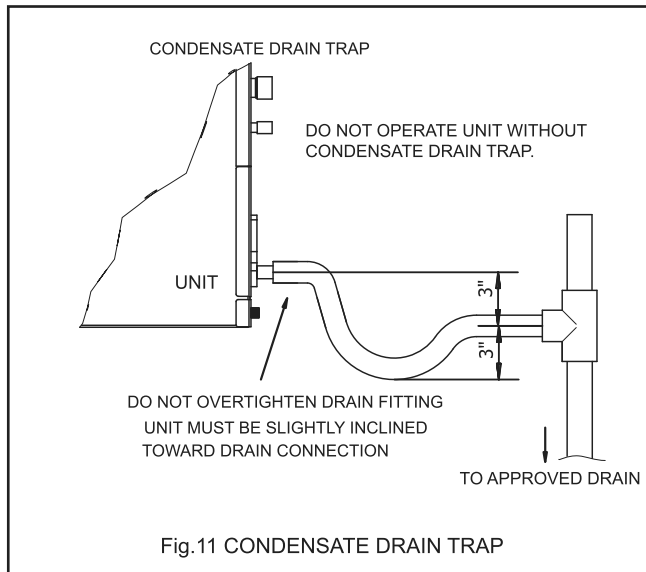

Fig.11 CONDENSATE DRAIN TRAP
- Make sure unit is level or pitched slightly toward primary drain connection so that water will drain completely from the pan. (See Fig.11)
- Make provisions for disconnecting and cleaning of the primary drain line should it become necessary. Install a 3 inch trap in the primary drain line as close to the unit as possible. Make sure that the top of the trap is below connection to the drain pan to allow complete drainage of pan (See Fig. 11).